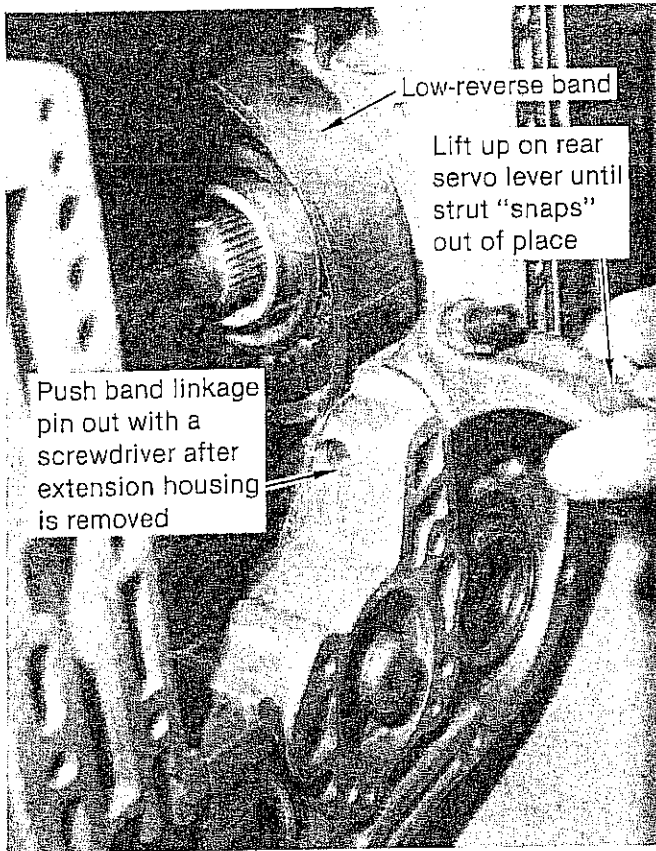

FIGURE 17
**STEP 10.** Lift up on the rear servo lever until the band strut "snaps" out of place. (See Fig. 17) Remove the low/reverse band and short apply strut. Put the strut in the oil pan. Set the band aside.
**STEP 15.** Remove the reverse band lever shaft. (See Fig. 17) Push on it from the inside with a screwdriver until it can be removed from the back of the case. Remove and discard the O-ring and put the pin in the oil pan. Remove the link and anchor, short lever and long lever from the case. Set them in the oil pan.